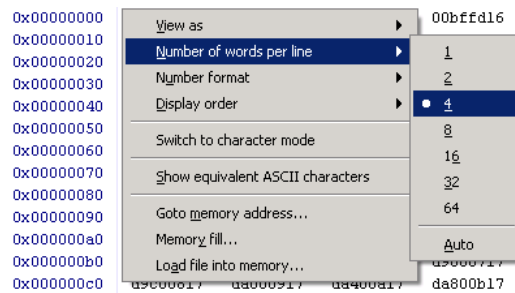

Figure 38. Setting the number of words per line.
- Number of words per line: the number of words per line can be configured to make it easier to find memory addresses, as depicted in Figure 38.